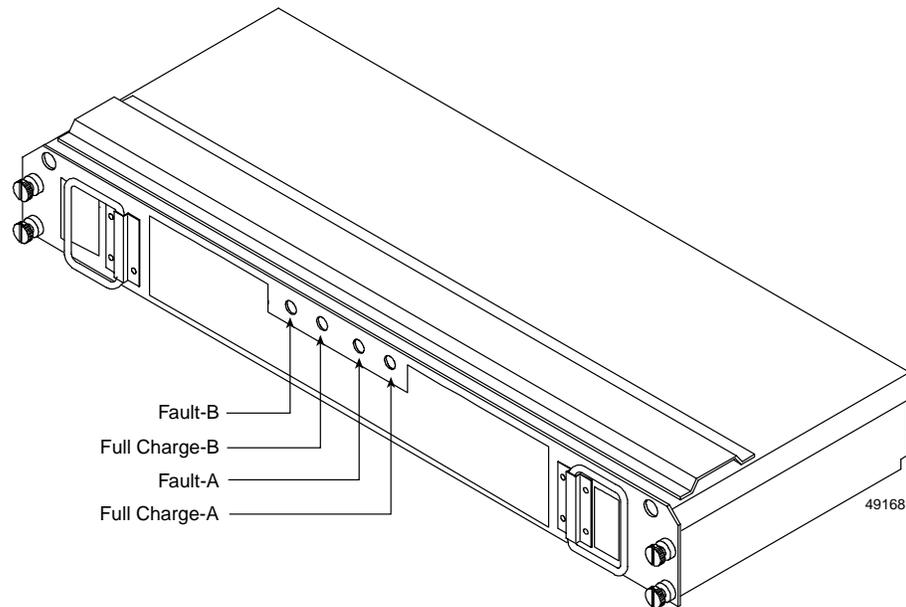

Figure 4-5 Battery Canister Indicators
8. Check the battery canister indicators (Figure 4-5). When properly charged, both Full Charge indicators on the front of the battery canister will glow steadily.